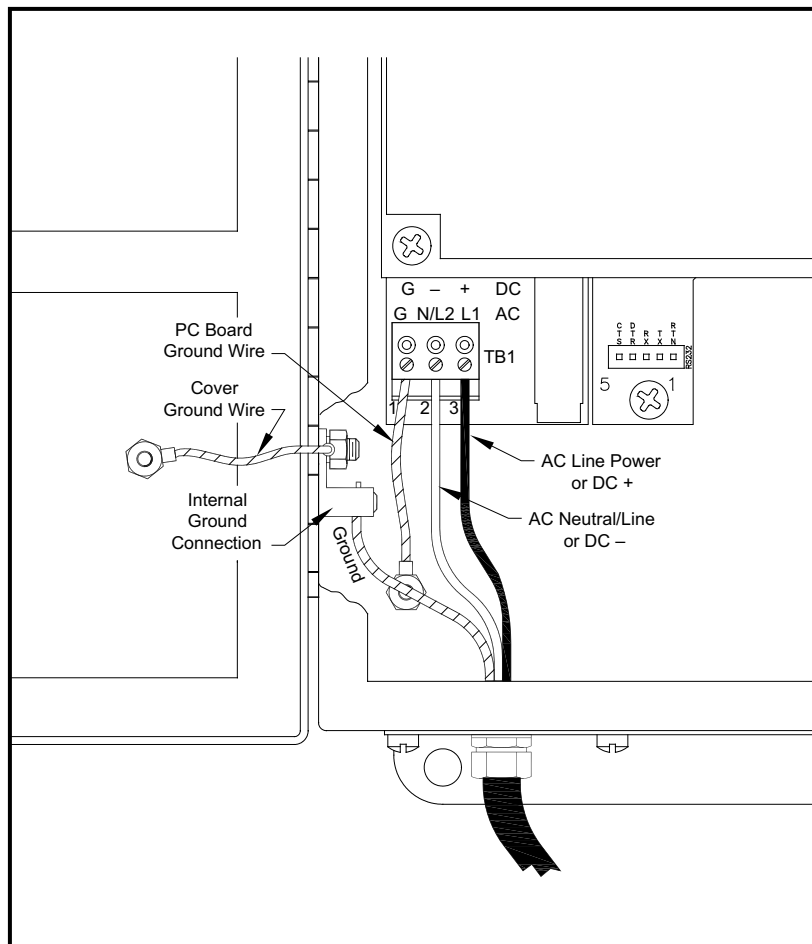

Figure 3: Wiring the Line Power
Refer to Figure 3 on page 7 or Figure 10 on page 18 to locate terminal block **TBI** and connect the line power as follows:
3. Connect the ground lead to the internal ground connection located on the side panel of the enclosure (see Figure 3 below).
4. Connect the neutral or line lead (or the negative – DC power lead) to **TB1-2** and the line power lead (or the positive + DC power lead) to TB1-3 as shown in Figure 3 below.